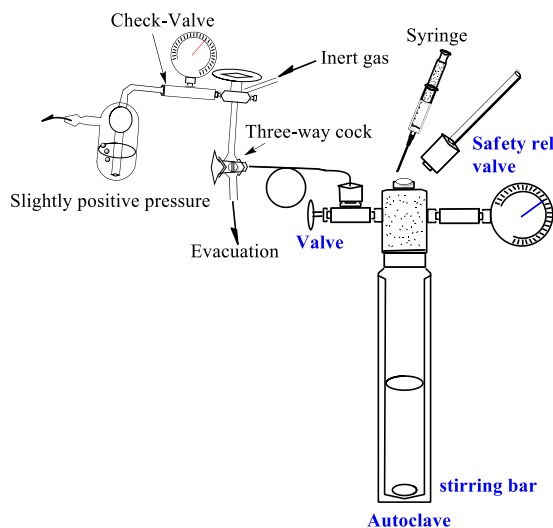

Figure 1. Transferring method.
- (1) To a stainless steel autoclave equipped with a Teflon-coated stirring bar, the catalyst (0.005 mmol) and NaOMe ¹ (1 mmol) are placed.
- (2) The autoclave is evacuated and filled with an inert gas (argon or nitrogen) three times.
- (3) The safety relief valve is opened and THF ²(8 mL) and methyl benzoate (10 mmol) are charged by syringe into the autoclave slightly pressurized with an inert gas. Then the valve is closed and the autoclave is filled with an inert gas (Figure 1).